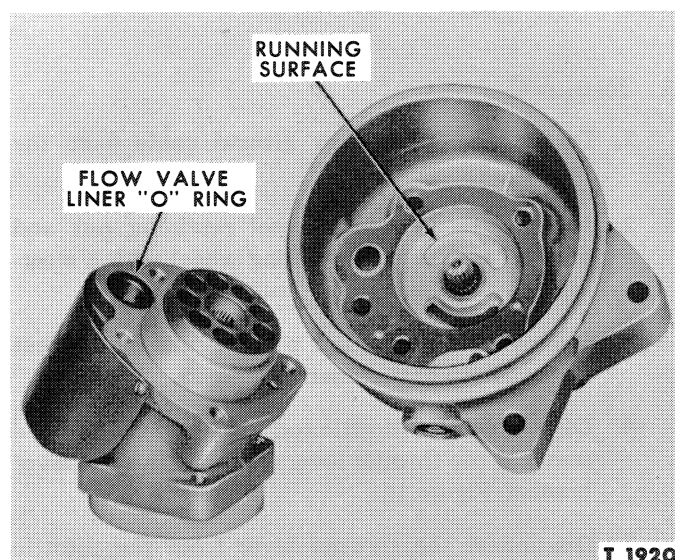

Figure 12—Assembling the Bearing Cap to the Pump Body
6. Examine the running surface of the bearing cover and the inlet end cover, Figure 12. If scored, or if the port edges are damaged, the part should be replaced.
8. Using a new gasket, assemble the bearing cover to the pump housing, Figure 12. Make sure the locating pin in the cover engages the locating hole in the pump housing. Install the five hex head bolts finger tight.